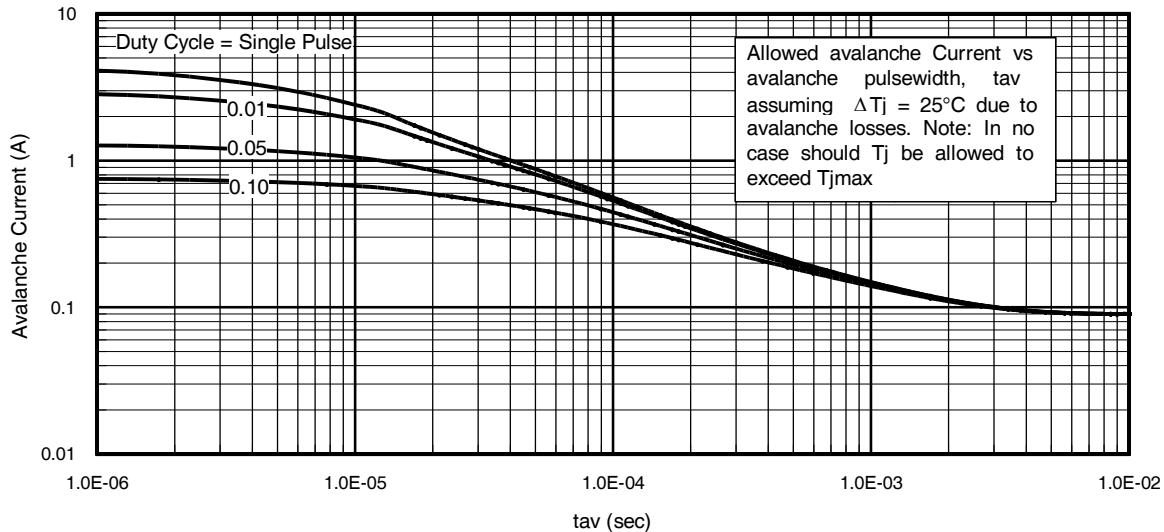

Fig 15. Typical Avalanche Current Vs.Pulsewidth
Notes on Repetitive Avalanche Curves , Figures 15, 16:
7. ΔT = Allowable rise in junction temperature, not to exceed $T_{j\max}$ (assumed as 25°C in Figure 15, 16).